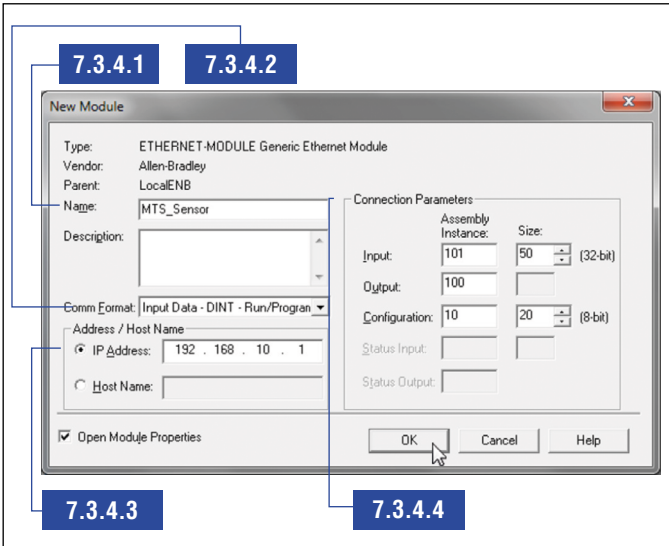

Fig. 100: NewModulewindow
**7.3.4** In the “New Module” window (Fig. 100) perform step 7.3.4.1 – 7.3.4.4 to configure the new generic ethernet module to the R-Series V EtherNet/IP™ sensor.